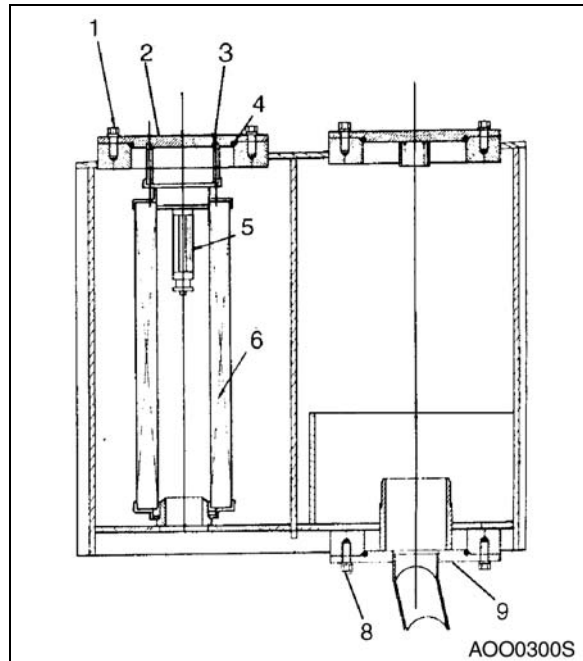

Figure 67
2. Clean filter cover (2, Figure 67) and reservoir around cover.
3. Remove bolts (1, Figure 67) from cover (2).
4. Lift cover (2, Figure 67) and O-ring (4) off reservoir. Control spring (3) that sits beneath cover. Remove spring (3).
5. Remove valve (5, Figure 67) and filter (6) from reservoir.
6. Clean underside of cover (2, Figure 67).
7. Set a new element (6, Figure 67) and valve (5) down into reservoir. Press element down onto its base until top of element is approximately 4 mm (0.157") below edge of reservoir.
8. Install a new O-ring (4, Figure 67) on cover (2). Set spring (3) into place on element (6).
9. Set cover (2, Figure 67) into place over element (6). Install bolts (1) through cover (2) and tighten them.